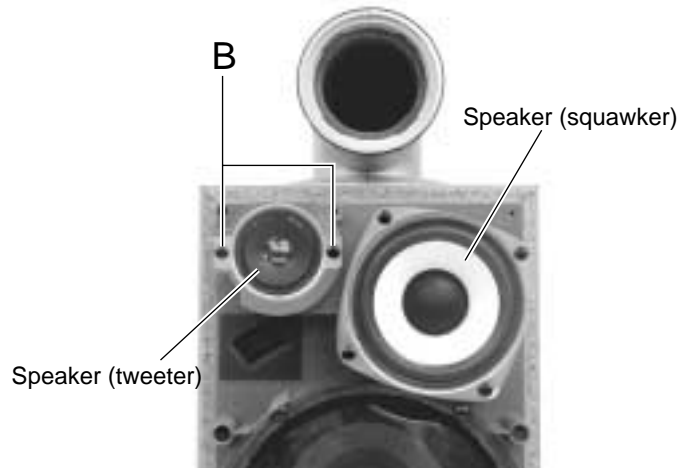

Fig.2
■ **Removing the speaker (tweeter) (See Fig.2)**
■ Removing the CD tray assembly (See Fig.2~4)
1. Remove the front panel assembly. (See Fig.2~4)